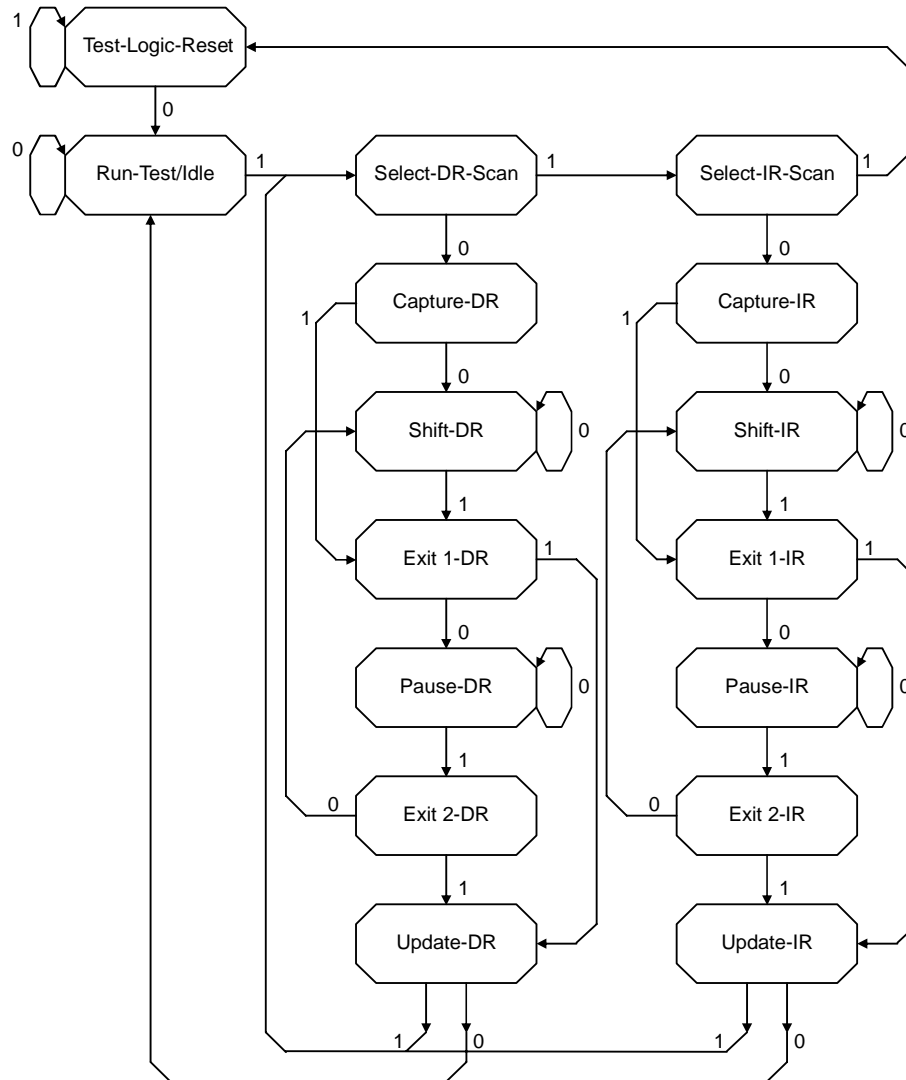

Figure 14.3.8 TAP Controller State Diagram
The state transition diagram of the TAP controller is shown in Figure 14.3.8. Each arrow between states is labeled with a 1 or 0, indicating the logic value of JTMS that must be set up before the rising edge of JTCK to cause the transition.
The following paragraphs describe each of the controller state. The left vertical column in Figure 14.3.8 is the data column, and the right vertical column is the instruction column. The data column and instruction column reference data register (DR) and instruction register (IR), respectively.